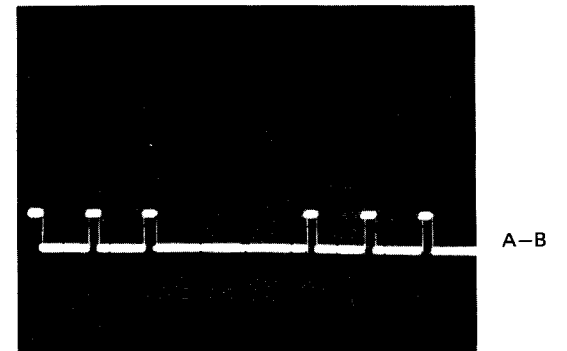

Figure 18. Resultant Display
6. With either channel A or B VOLTS/DIV vernier **55**, adjust for minimum deflection in common-mode signal. The resultant display will either subtract all of unwanted component or display desired signal larger than common-mode signal. (See figure 18.)